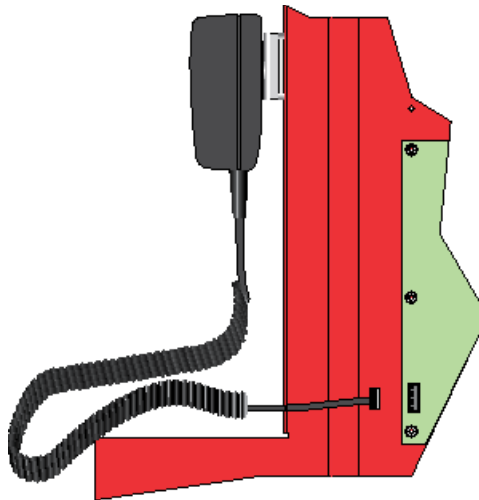

Figure 4-43 Microphone Cord Inserted Through Dead Front Panel Hole
2. Insert Microphone cord through hole at the bottom of the dead front panel. See Figure 4-43.